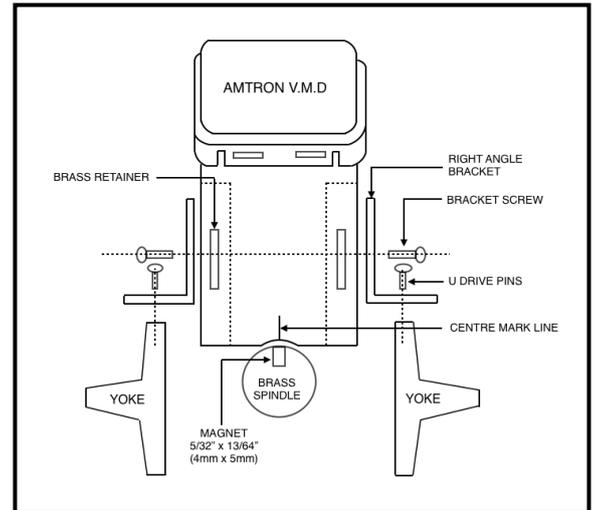

Fig 4: Amtron VMD components for OS&Y installations
16. It is **EXTREMELY** important to ensure the valve monitor is located centrally over the spindle. The Amtron monitor has a centre-mark line and a curved recess on the base, when located correctly the recess will sit on the apex of the spindle and the centre-mark line will fall centrally on the spindle. Refer to Fig 4.